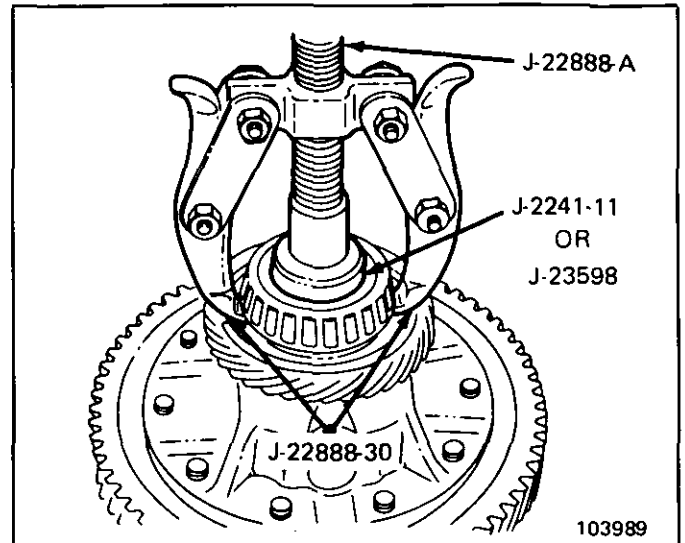

Figure 31 Differential Side Bearings
1. Remove the side bearing using J-22888 with puller leg kit J-22888-30 and pilot J-2241-11 (Figure 31).